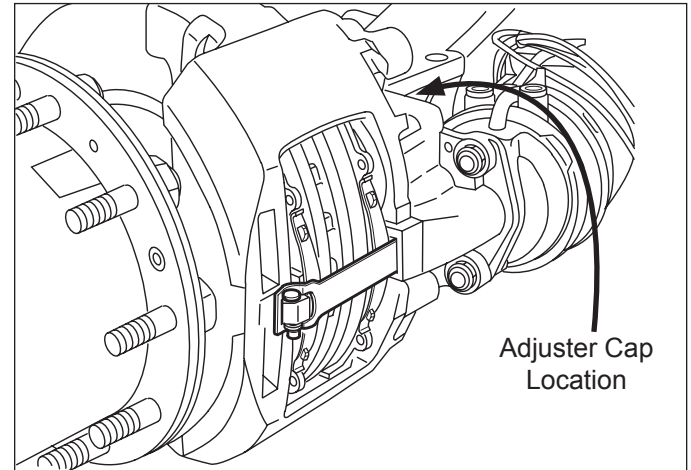

**Figure 5 – Pad Shield**
3. Remove and retain the pad shield (if equipped). (See Figure 5).